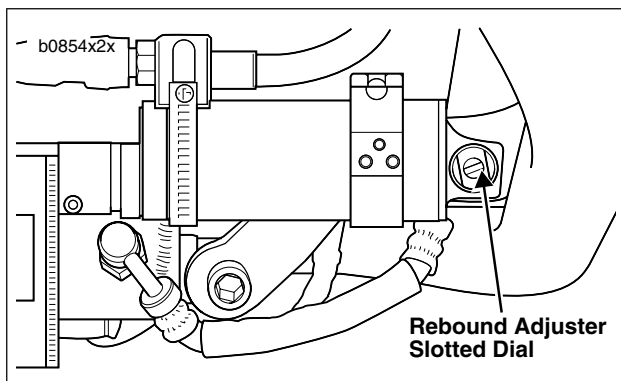
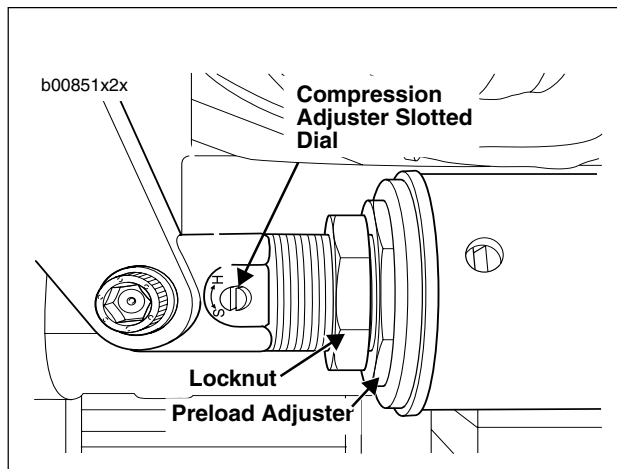

Figure 2-84. M2/M2L Rear Shock Rebound Adjustment
Figure 2-85. M2/M2L Rear Shock Compression and Preload Adjustment
See Figure 2-84. The rear shock absorber allows for adjustment of compression and rebound damping and spring preload. See Figure 2-85.
See Figure 2-84. Adjust **rebound** damping using the slotted dial on the remote reservoir at the front of the shock.
See Figure 2-85. Adjust **compression** damping using the slotted dial at the rear of the shock.
1. See Figure 2-84. See Figure 2-85. Using a screwdriver, turn the slotted dial on the appropriate adjuster clockwise until it stops. This is the maximum damping setting for that preload setting.